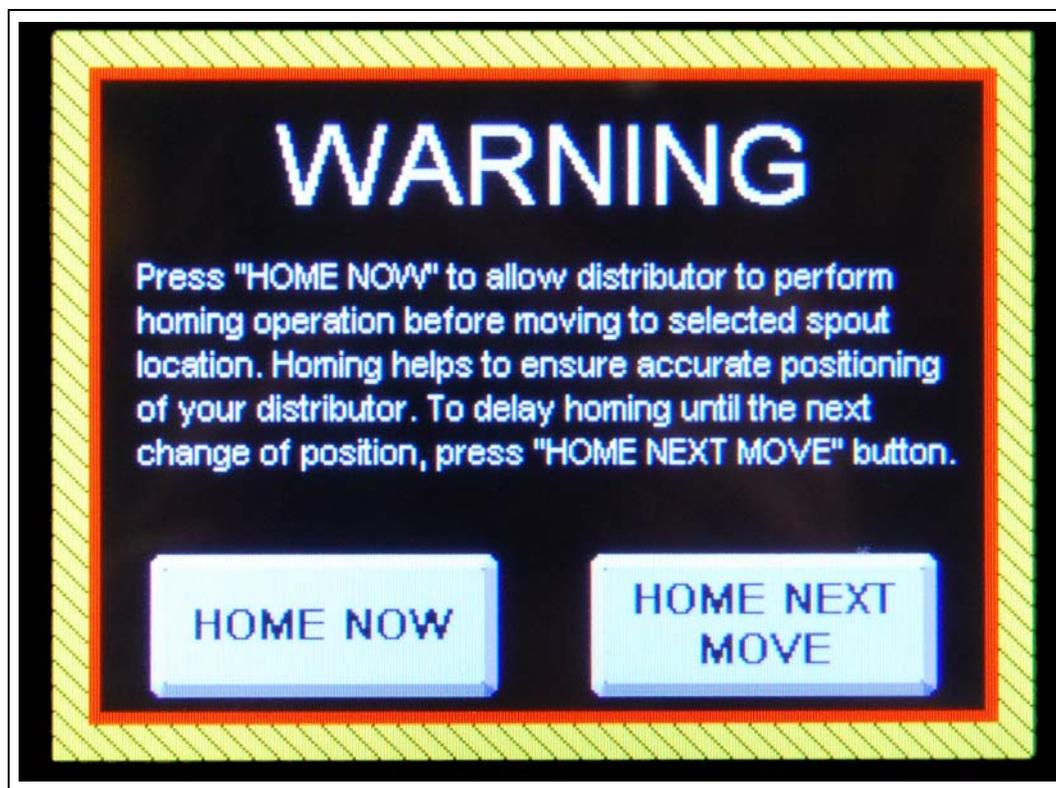

Figure 4V Homing Warning
To help ensure accurate positioning of the distributor a homing warning will display when the number of times the distributor is repositioned is equal to the homing interval. This message will occur every time that a spout move is attempted until the homing procedure is completed. The user will be given two (2) options: "Home Now" and "Home Next Move". (See Figure 4V.)